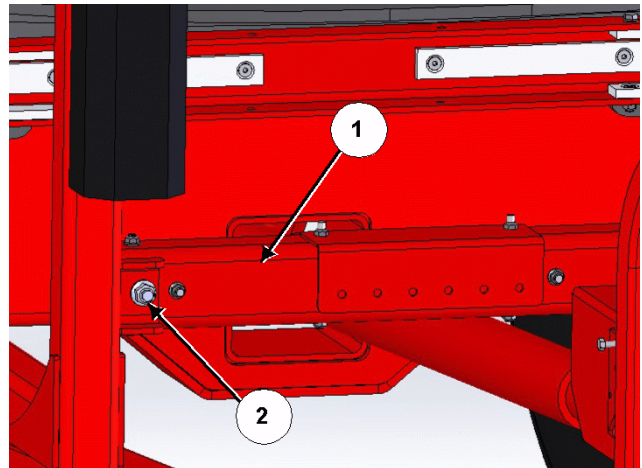
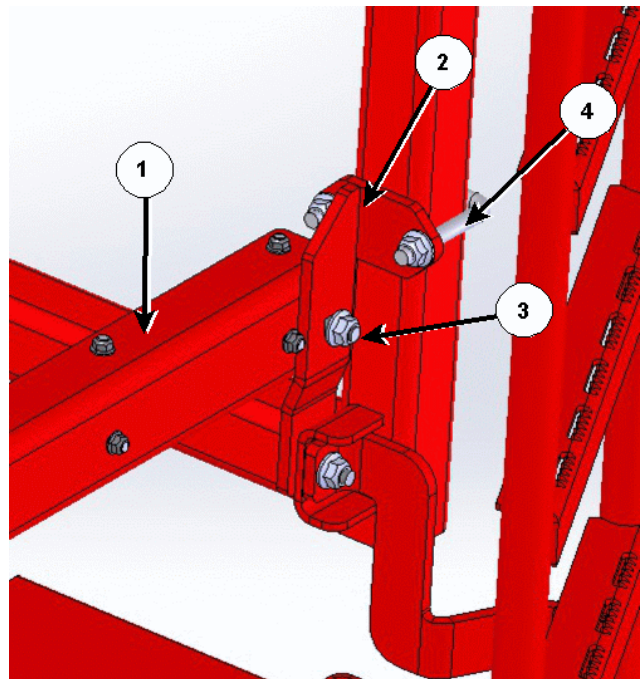

Figure 8: Fasten the right side of the front conveyor slide
Figure 9: Fasten the left side of the front conveyor slide
- e. Align the bolt on the right side of front conveyor slide (1) with the platform upright, and loosely fasten with a ½" flange lock nut (2), see Figure 8.
- f. Align the left side of the front conveyor slide (1) with the mounting bracket (2) and place one ½" x 1 - ½" carriage bolt (3) through the hole.
- i. Fasten the carriage bolt onto the mounting bracket using a ½" flange lock nut, see Figure 9.
- g. Tighten the flange lock nuts on the right side of the conveyor slide (2 - Figure 8) and on the U-bolt (4 - Figure 9).